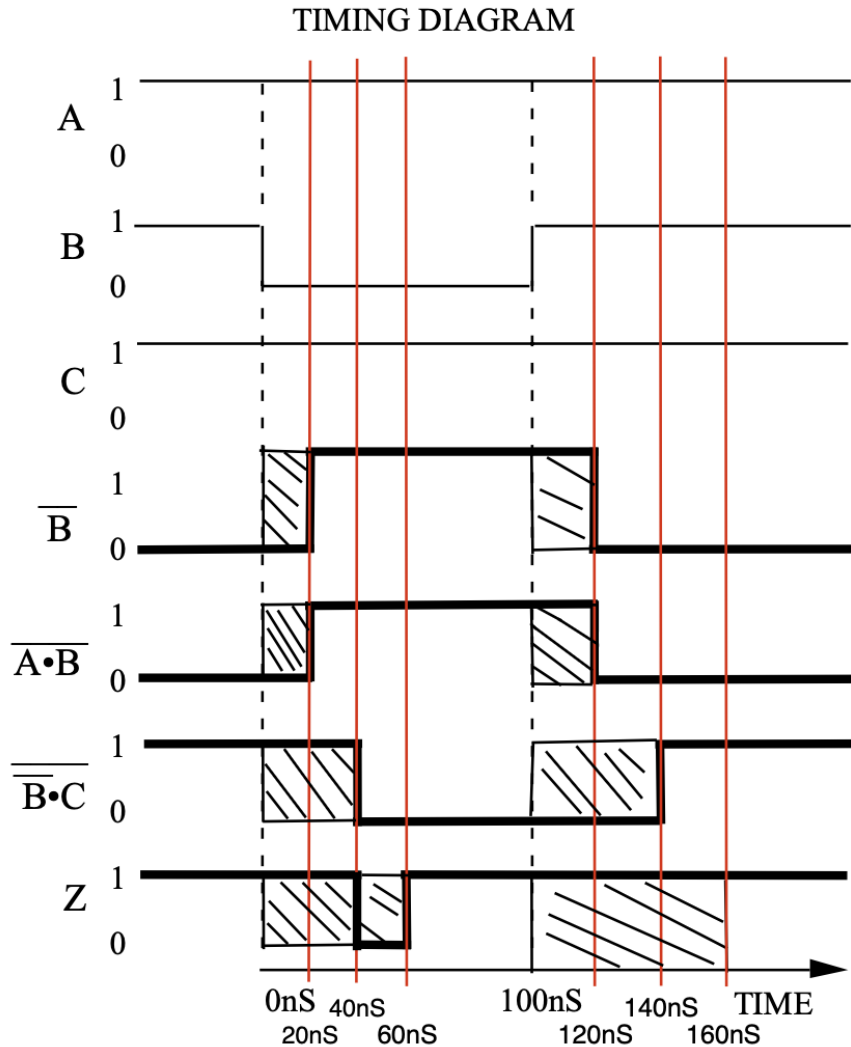

Fig 1.7: Timing Diagram for Part A, executed in Lab
- a. Given that the guaranteed minimum propagation delay of a 7400 is 0ns and that its guaranteed maximum delay time is 20ns, complete the timing diagram below for the circuit of part A. The timing diagram is shown below: (Fig 1.7)